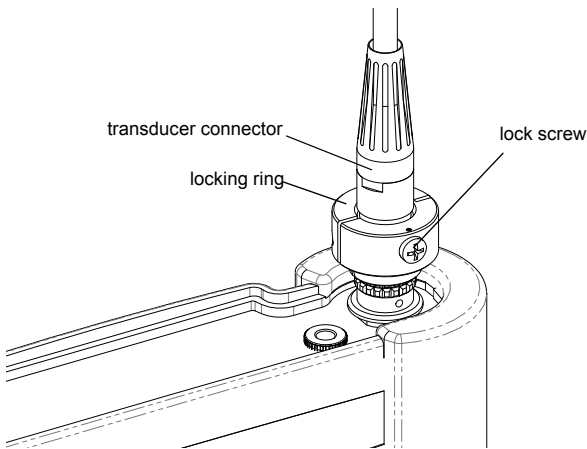

Fig. 7.10: Connection of the transducers (FLUXUS F608**-F2)
- Secure the connector with of the lock ring by tightening the lock screw (see Fig. 7.10).